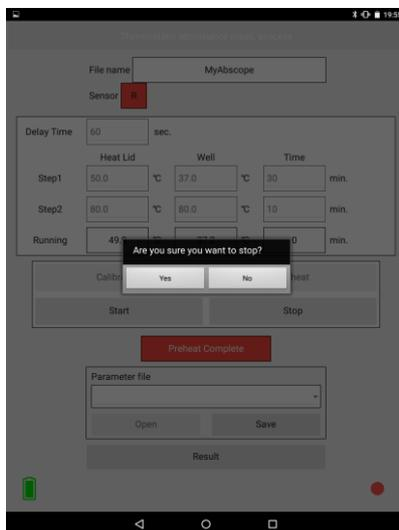

Figure 4-19: Preheating stop confirmation screen
To quit preheating halfway, tap the process stop button (7) in Figure 4-7. You will be asked “Are you sure you want to stop?” as shown in Figure 4-19. Tap “Yes” to stop, or “No” to continue preheating.